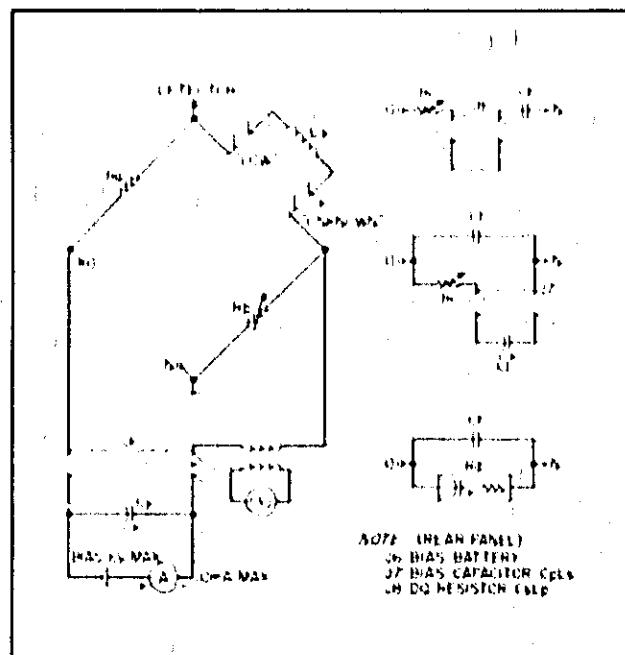

Figure 3-6. De Biased Inductance Measurement
measurement. Figure 3-6 schematically illustrates the de bias application. Operating procedure for debiased measurements is described below and pictorially shown in Figure 3-6. The following equipment will be required:
a. Connect the measurement setup as shown in Figure 3-6. Ground only the 4260A cabinet to power line ground.